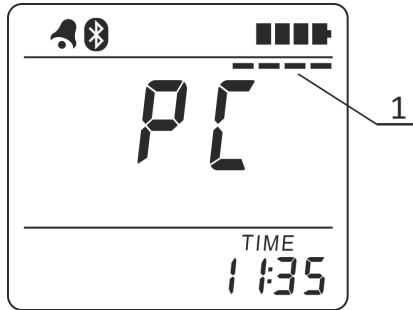

Figure 2.23 – LCD of the radiometer
In case of successful connection with the PC and start of data communications, the radiometer LCD displays a stripe (1) (Figure 2.23), “moving” across the instantaneous value indicator.